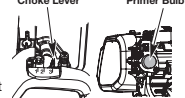
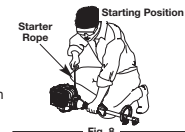

Fig. 7
Fig. 8
**WARNING:** Avoid accidental starting. Make sure you are in the starting position when pulling the starter rope (Fig. 8). To avoid serious injury, the operator and unit must be in a stable position while starting.
3. Fully press and release the primer bulb 10 times, slowly. Some amount of fuel should be visible in the primer bulb and fuel lines (Fig. 7). If fuel can not be seen in the bulb, press and release the bulb until fuel is visible.
4. Place the choke lever in **Position 1** (Fig. 7).
5. Crouch in the starting position (Fig. 8). Squeeze the throttle control lever. Pull the starter rope 5 times.
6. Place the choke lever in **Position 2** (Fig. 7)
9. Continue squeezing the throttle control, move the choke lever to **Position 3** (Fig. 7) and continue warming the engine for an additional 60 seconds. The unit may be used during this time.
**IF...** the engine hesitates, return the choke lever to **Position 2** (Fig. 7) and continue warm-up.
3. Fully press and release the primer bulb 10 times, slowly. Some amount of fuel should be visible in the primer bulb (Fig. 7). If fuel cannot be seen in the bulb, press and release the bulb until fuel is visible.
4. Move the choke lever to **Position 1** (Fig. 7).
5. Crouch in the starting position (Fig. 8). Place the electric starter or power start bit into the back of the unit. Refer to the Operation section of the Electric Starter or Power Start Bit operator's manual.
6. Squeeze the throttle control lever. Press and hold the electric starter or drill ON (I) button for 2 seconds.
7. Move the choke lever to **Position 2** (Fig. 7).
8. Squeeze the throttle control lever, press and hold the electric starter or drill ON (I) button for 2-second intervals until the unit starts.
10. Continue squeezing the throttle control, move the choke lever to **Position 3** (Fig. 7) and run the unit for an additional 60 seconds. The unit may be used during this time.
**IF...** the engine fails to start after 2 attempts, place the choke lever in **Position 3** and squeeze the throttle control. Press and hold the electric starter or drill ON (I) button for 2-second intervals until the unit starts.